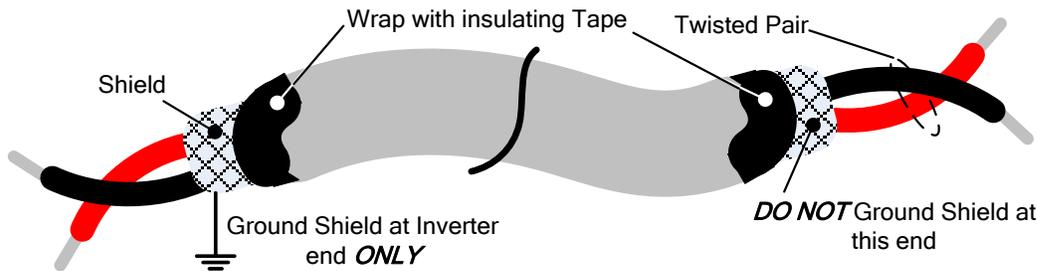

Fig. 3.17.1 Shielded Twisted-Pair
- (1) Separate the wiring for control circuit terminals from main circuit wiring for terminals (R/L1, S/L2, T/L3, U/T1, V/T2, W/T3).
- (2) Separate the wiring for control circuit terminals R1A-R1B-R1C (or R2A, R2C) (Relay outputs) from wiring for terminals ① - ③, A01, A02, GND, DO1, DO2, DOG, +10V, (-10V), AI1, AI2 and GND wiring.
- (3) Use shielded twisted-pair cables (#24 - #14 AWG / 0.5 -2 mm²) shown in Fig. 3.17.1 for control circuits to minimize noise problems. The maximum wiring distance should not exceed 50m (165 ft).